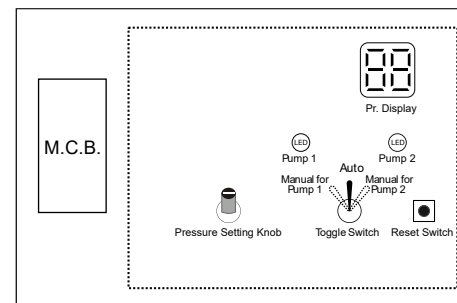

Fig.1 Control Panel
4. Control Panel's (fig.1) functions are described below:
- ① **Set Point** - The Set point of the pressure is set by turning the pressure setting knob. On turning the knob, display starts blinking and shows the set-point. It again shows the actual pressure when it is left idle for 15secs.
- ② **Auto Mode** - Pump switches OFF when the pressure exceeds the set-point and is switched ON, as the pressure goes below (one bar) the set-point. If the pressure is not achieved in 15mins, the pump will switch OFF and after 1min other pump will start to achieve the required pressure.
- ③ **Manual Mode** - Operation can be switched from Auto mode to Manual mode for Pump 1/ Pump 2 by the toggle switch. In manual mode, the pump operates continuously for 30mins, then stops for 10mins before restarting.
- ④ **Alarm** - A NO contact of relay is provided for the alarm which closes when an alarm is raised. In case of alarm, press reset key to clear alarm or switch OFF & then switch ON the mains.